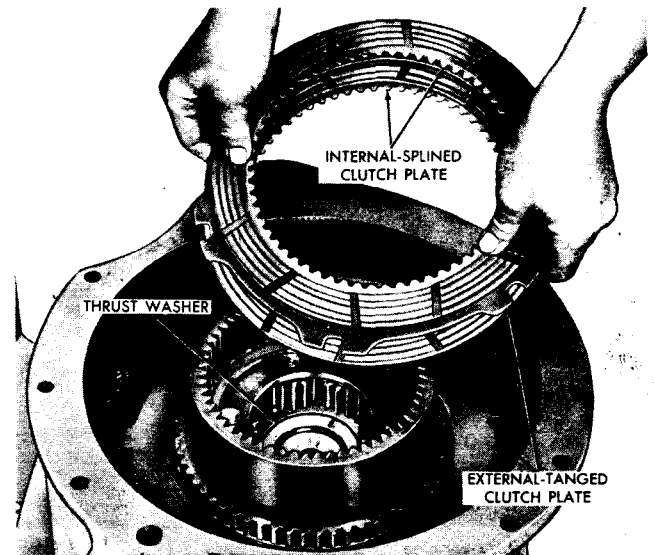

Fig. VII-24. Installing forward clutch plates
(2) Install the thrust washer into the forward planetary carrier assembly (fig. VII-24).
(3) Install an external-tanged forward clutch plate, an internal-splined plate, another external-tanged plate, and the remaining internal-splined plate onto the plates previously installed (fig. VII-24).